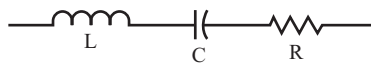

FIGURE 12.9
46. In the circuit shown in Figure 12.9, $L = 1 \text{ mH}$, $C = 0.1 \mu\text{F}$, and $R = 10 \text{ ohms}$. Find f_p , X_L , X_C , Z , Q , and the bandwidth. _____